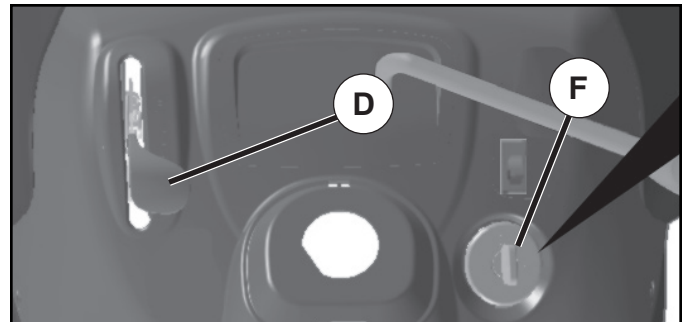

Fig. 8
TO USE THROTTLE CONTROL (D) (See Fig. 8)